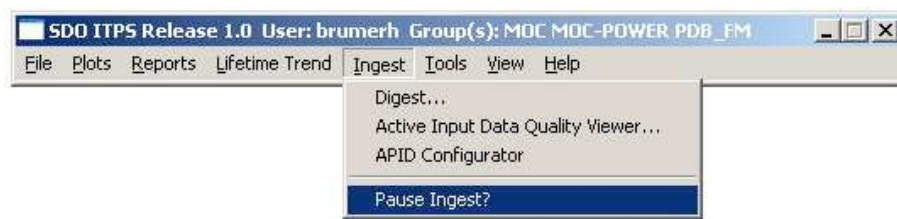

Figure 113: Ingest Menu
- Select “Ingest” from the ITPS Main Interface menu (see *Figure 113*).